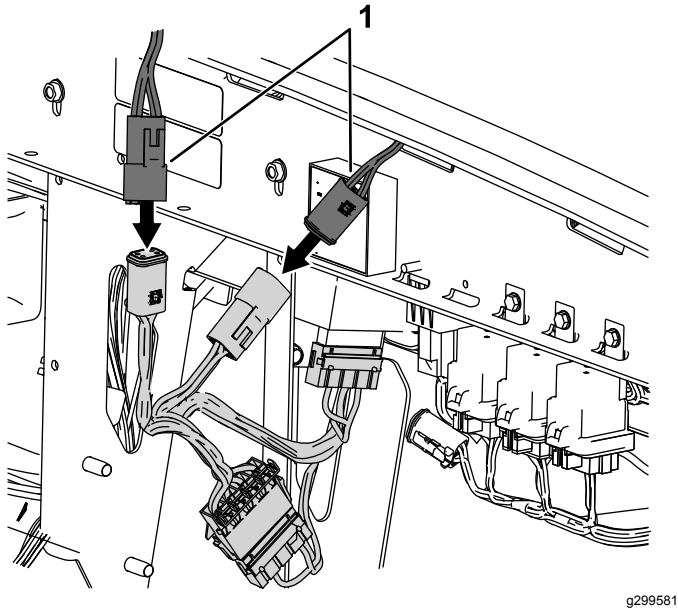

Figure 26
5. Connect the loose square plug on the power converter wire harness to the cab adapter wire harness (Figure 26).
- Connect the loose square socket on the power converter wire harness to the cab adapter wire harness (Figure 26).